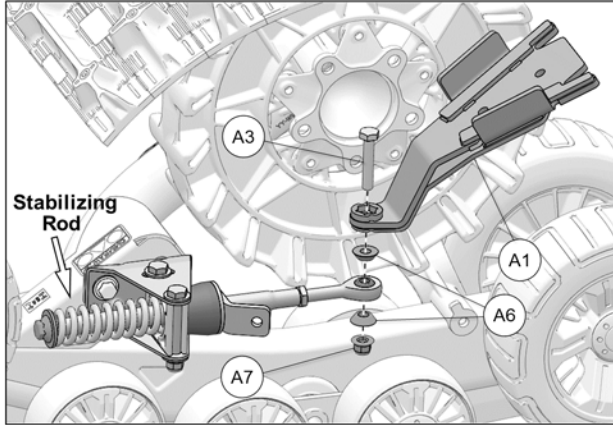

Fig. 19
10. Attach bottom part of anchor bracket (A1) to stabilizing rod on Track Kit unit using the M10x60mm bolt (A3), taper spacers (A6), and nut (A7) provided in the mount kit. Hand tighten the nut temporarily. See Fig. 19